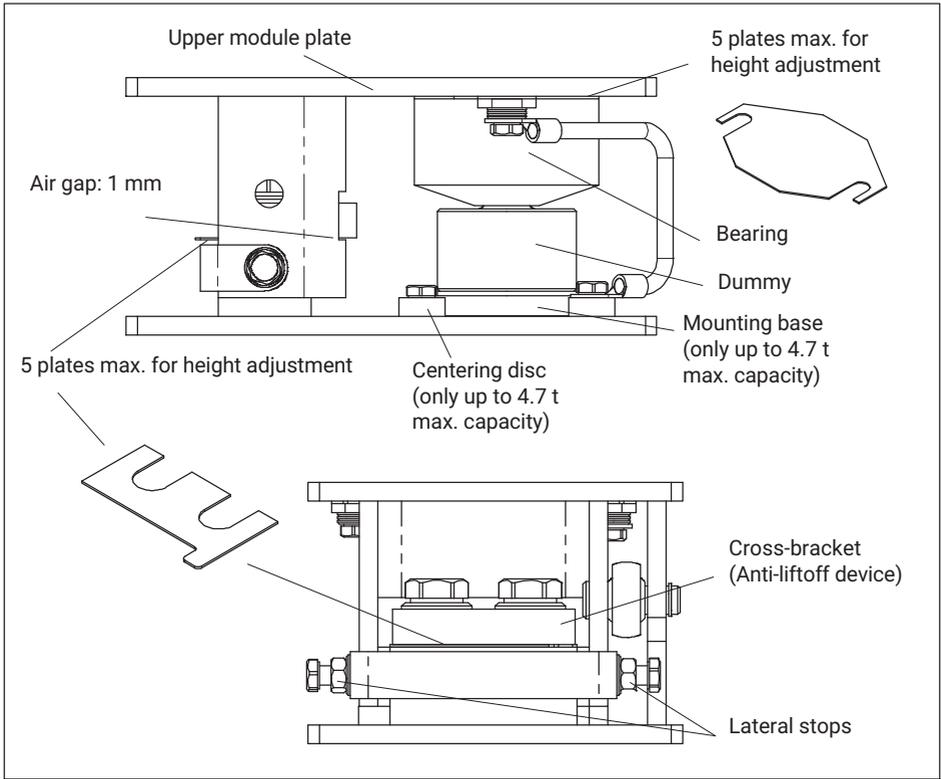

Fig. 4.1 Fitting of the spacer plates with 4.7 t version
Mounting of load cells up to a max. capacity of 4.7 t: see Fig. 4.1
- Mount and adjust the anti-liftoff device by inserting plates underneath such that an air gap of about 1 mm results (see *Fig. 4.1*) with the tank empty.